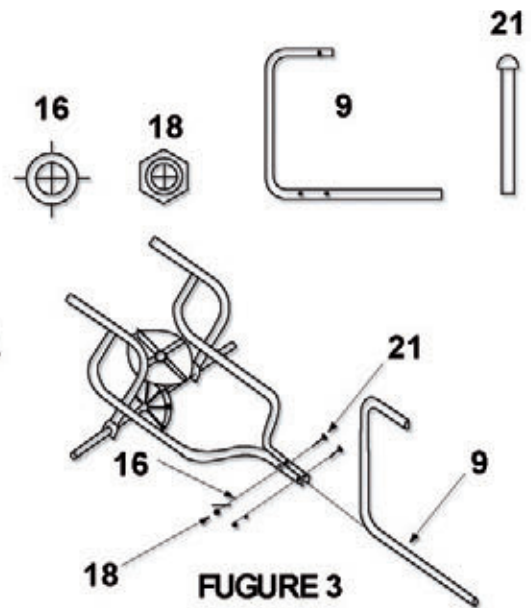

FIGURE 3
Attach front bracket (9) to right support (6) and left hopper support (7) using screw M6x40 (21), small flat washer (16), and hex nut M6 (18). (Fig. 3)